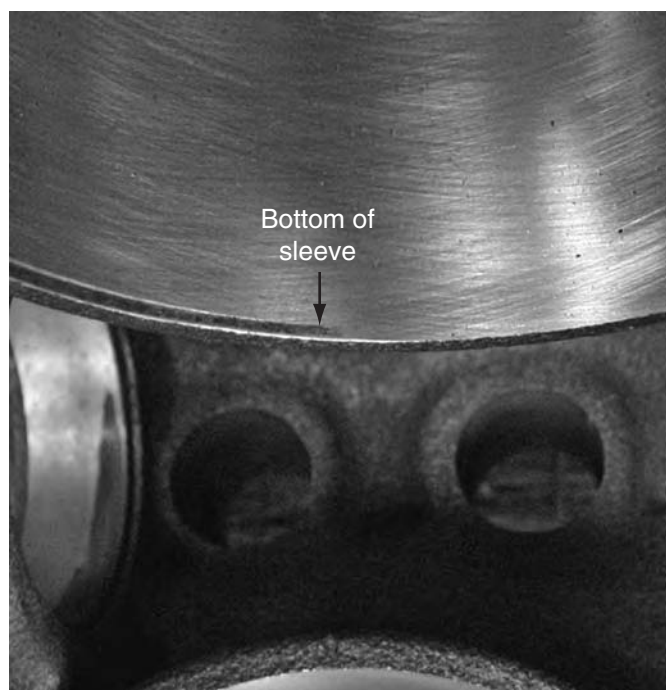

FIGURE 11.53 The lip at the bottom of the sleeve is only visible on part of this finish-honed cylinder. (Courtesy of Tim Gilles)
I.D. of the sleeve is bored to size, the line between the sleeve and step in the block will be almost impossible to see (**Figure 11.53**). Many machine shops use this procedure. Cylinders are often cut away at the bottom to provide clearance for the rod bolts or crankshaft counterweights. One advantage to cutting the bore to a ledge is that you will not need to spend additional time machining another clearance scallop on the bottom of the new sleeve.